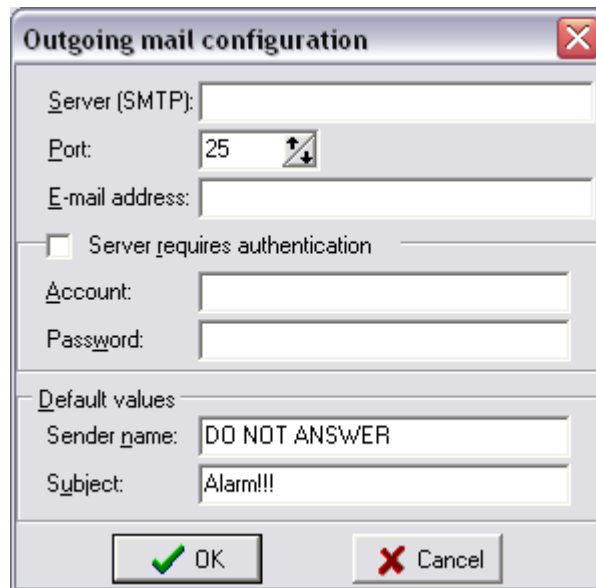

Fig 66. Alarm Server — Phones Configuration
1. In the **Alarm Server — Outgoing mail configuration** select appropriate sound files and **Waiting delay for answer** (Fig 66).